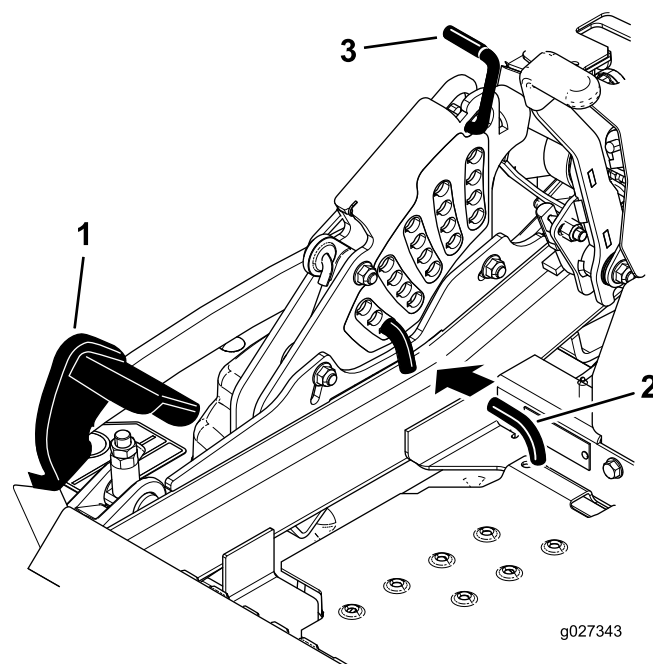

Figure 25
2. Push on the deck lift pedal with your foot, and raise the mower deck to the transport position (also the 140 mm (5-1/2 inch) cutting-height position); refer to Figure 25.
3. To adjust, rotate the pin 90 degrees and remove the pin from the height-of-cut bracket (Figure 25).
4. Select a hole in the height-of-cut bracket corresponding to the height of cut desired, and insert the pin (Figure 25).